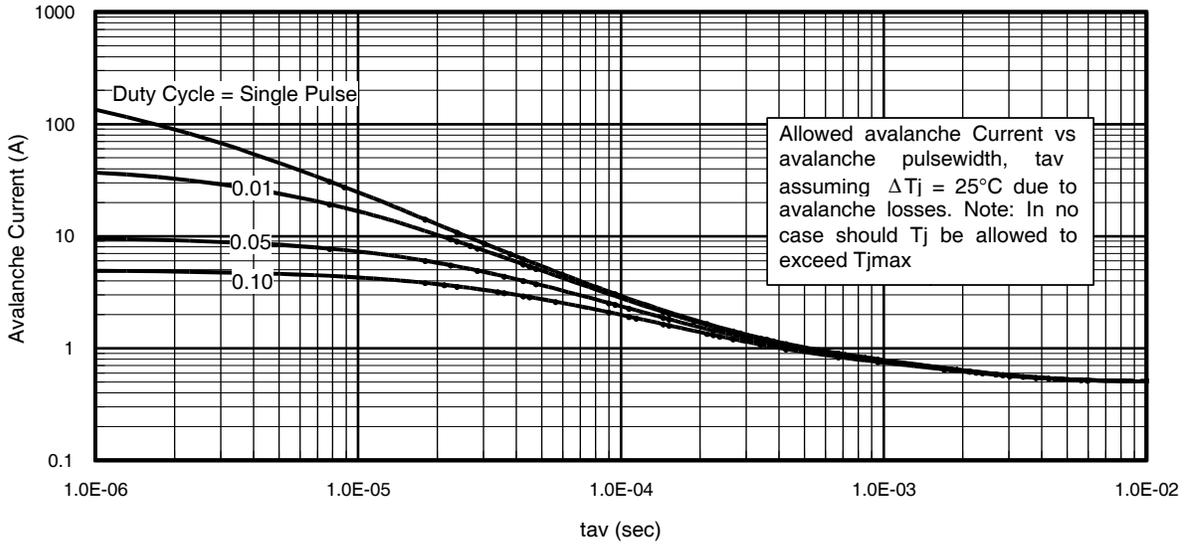

Fig 15. Typical Avalanche Current Vs.Pulsewidth
**Notes on Repetitive Avalanche Curves , Figures 15, 16:
7. ΔT = Allowable rise in junction temperature, not to exceed T_{jmax} (assumed as 25°C in Figure 15, 16).